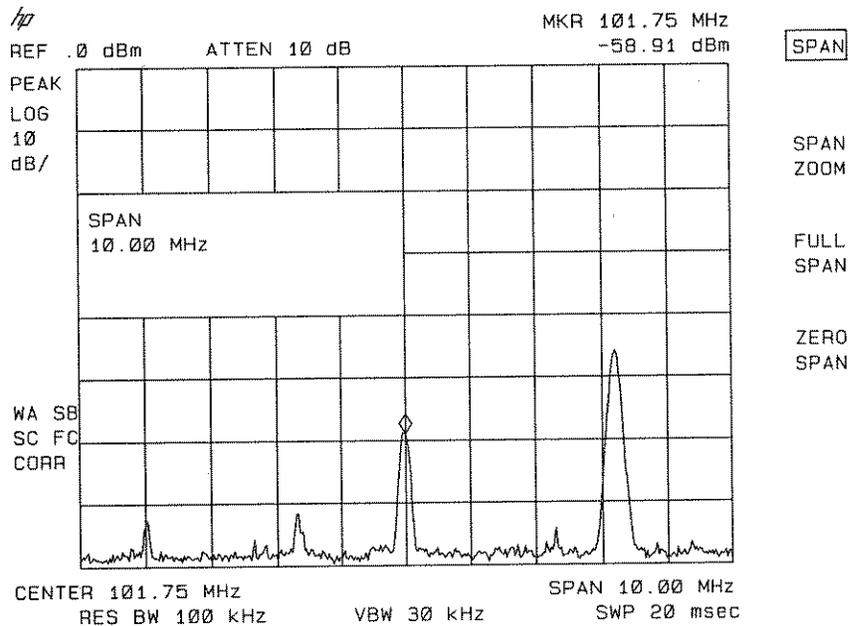

Figure 6-16. Low-Level Signal
5. Reduce the span to 10 MHz. Press **SPAN**, and then use the step down key (**▼**). See Figure 6-16.